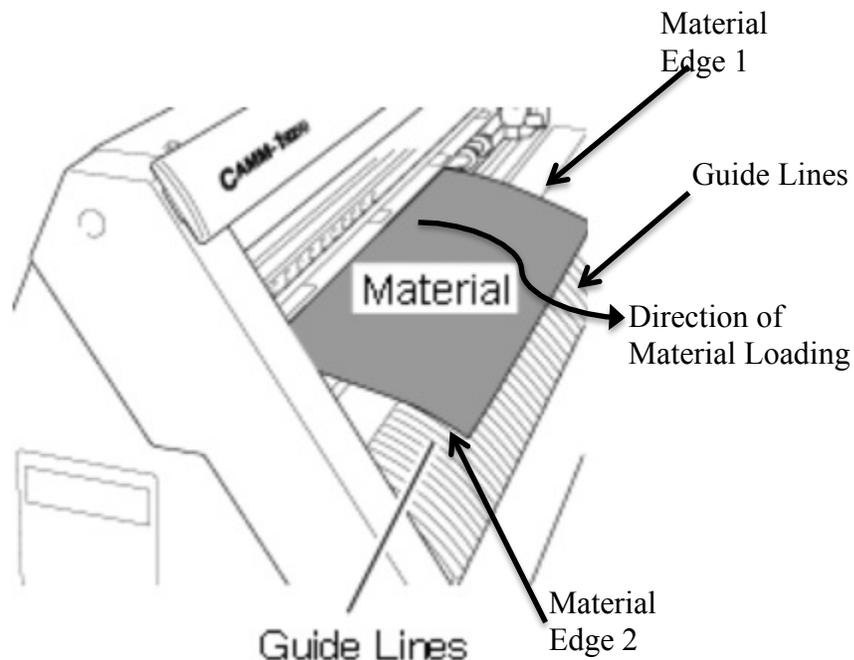

Figure 6: Vinyl Cutter Base
10. Material is now pushed through the machine, pulled out on the front side of the machine and positioned so that both **MATERIAL EDGE 1 & MATERIAL EDGE 2** align with the **GUIDELINES** (Figure 6).